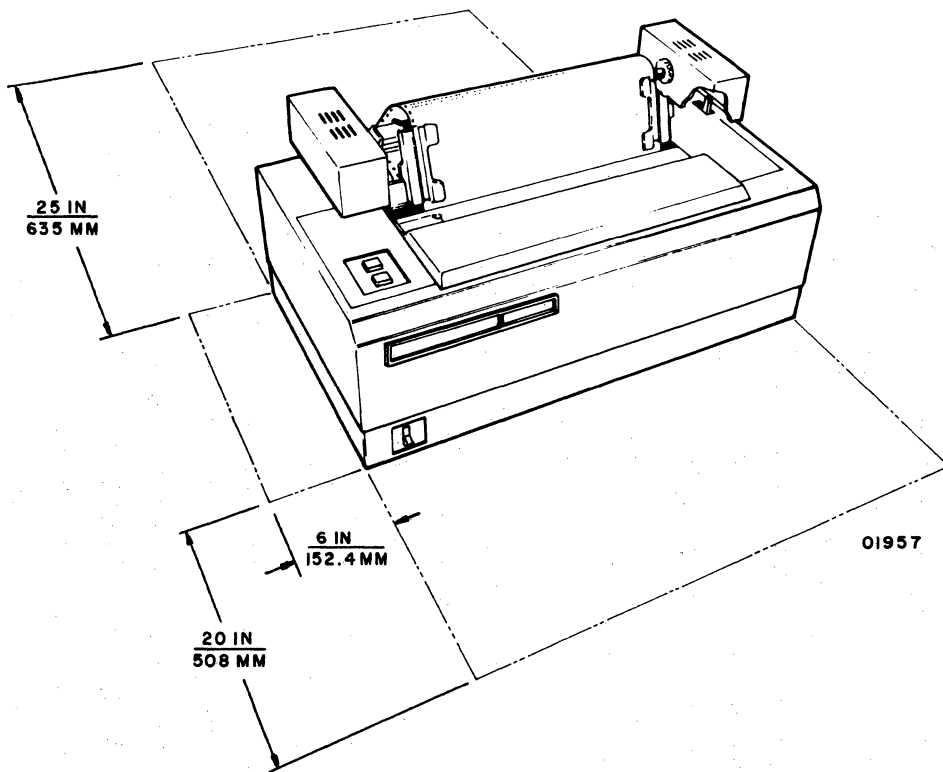

Figure 3-12. Impact Printer Access Space
- 2) Place unit on a clean, sturdy work surface, e.g., desk top, in the desired location near the keyboard display. For cooling purposes, but mainly for operator access to machine, provide access space shown in figure 3-12. During installation and checkout, the unit may be slid-out, and then slid back after checkout. Ambient environment must conform with that defined in specifications in section 1.